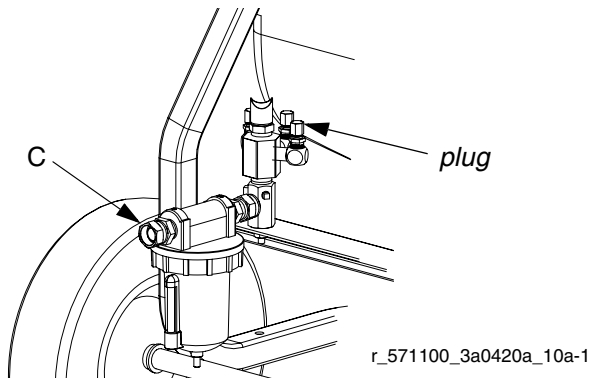

FIG. 8
2. Remove plugs as necessary for solvent pump and feed supply pump air hoses. See pump manuals for setup instructions. See FIG. 8.